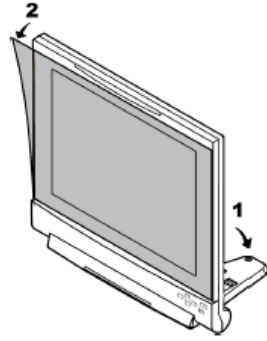

FIG. 7 Removing the protective cover
3. Remove the dust-proof plastic sheet (FIG. 7) from the screen (if applicable).
1. While on a flat surface, use both hands to gently unfold (pull-down) the display stand by flipping it downward (FIG. 7).